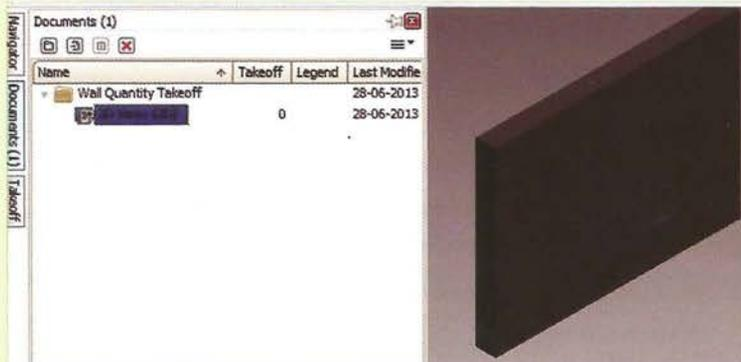

Fig 1: Document Palette
- Import Files = Select the given file 'Wall Quantity Takeoff.dwf' (Figure 1)